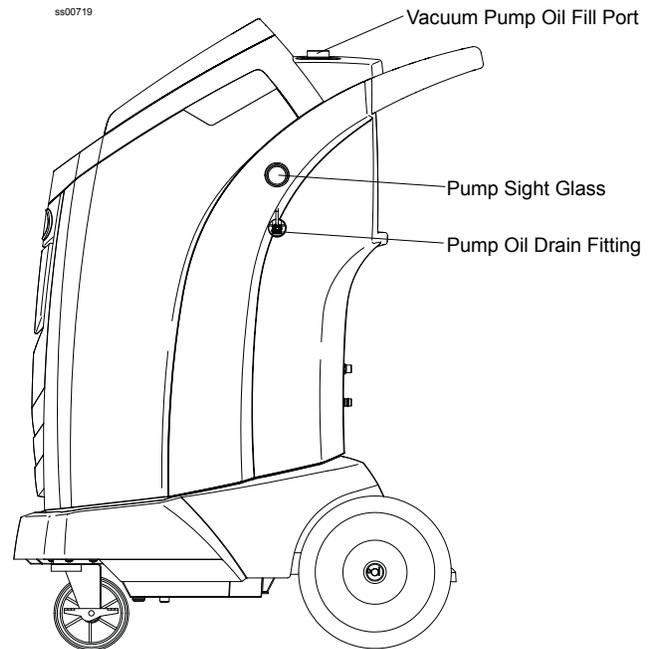

Figure 1-6. Oil Ports
3. After the compressor stops, slowly open the oil fill port cover to verify there is no pressure in the machine. Then carefully remove the cover. See Figure 1-6.